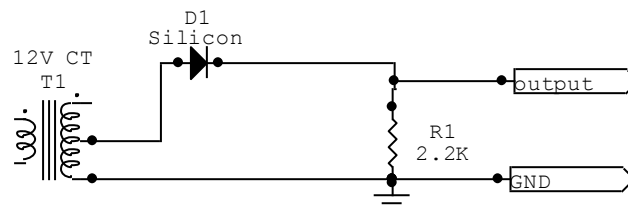

Figure 5.1
1. Construct the circuit of figure 5.1. Obtain your input signal V_{in} from the output of the transformer provided.